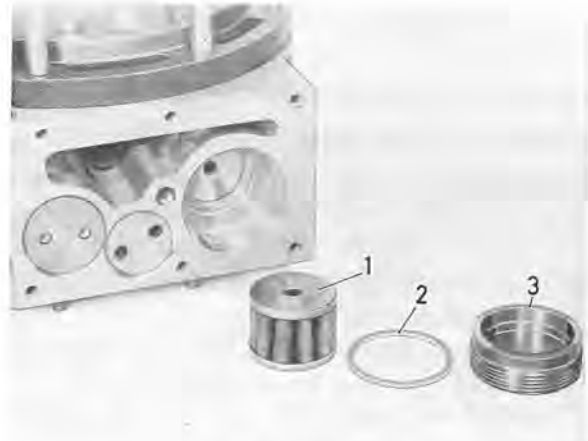

Fig. 4-48. Fine filter
2. Remove the plug and take out the seal and fine filter, see Fig. 4-48.